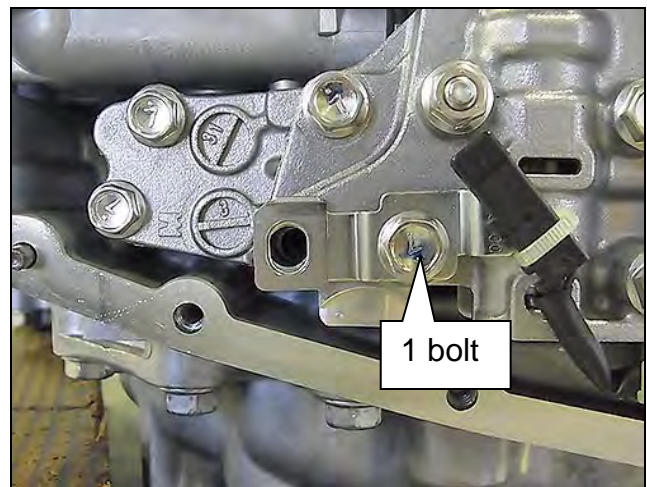

Figure 32
6. Install the CVT fluid temperature sensor bracket to the valve body with one (1) bolt (Figure 32).